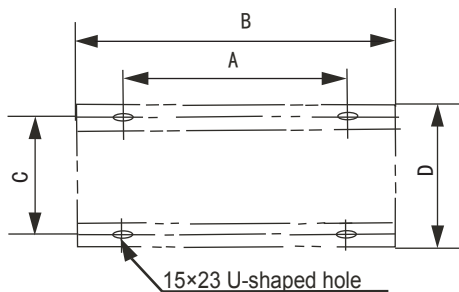

Fig.4-12
- To ensure that all contact points are equally secure, bases should be completely level. Base design should ensure that the points on the units' bases designed for weight-bearing support are fully supported. Bolt spacings should be as per Figure 4-12 and Table 4-3.